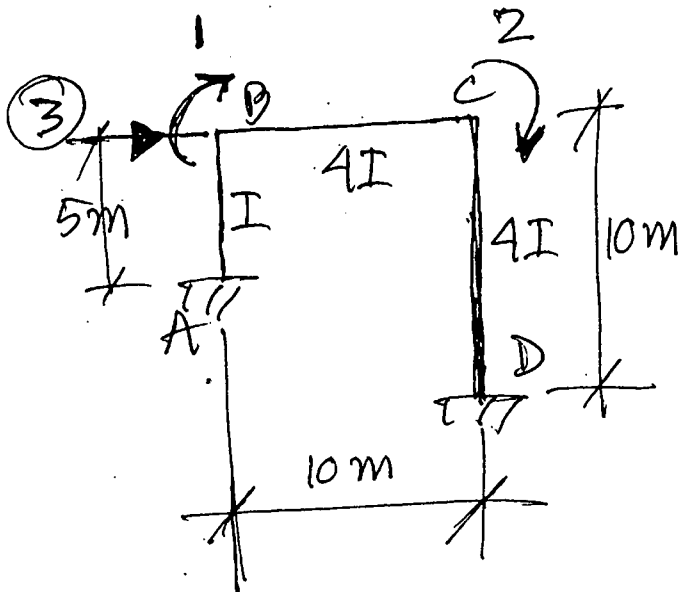

Fig. 16
- (b) Compute the translational stiffness of joint B in the horizontal direction ( $K_{33}$ ) for the frame in Fig. 16. (E = constant). (8)